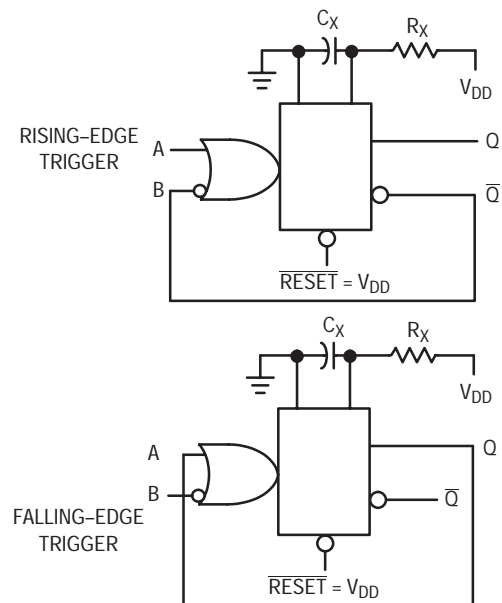

**Figure 11. Use of a Diode to Limit Power Down Current Surge**
9. If  $C_X > 15 \mu F$ , use discharge protection diode per Fig. 11.
When a more rapid decrease of  $V_{DD}$  to zero volts occurs, the MC14538B can sustain damage. To avoid this possibility use an external clamping diode,  $D_X$ , connected as shown in Fig. 11.